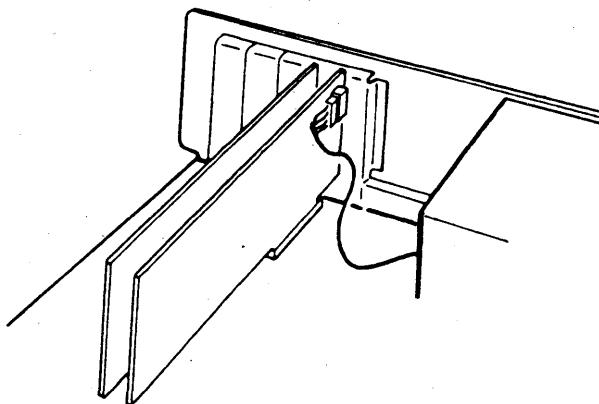

Figure 16: Applying Power to the Tape Controller
7. FOR EXTERNAL TAPE DRIVES WITHOUT POWER SUPPLY ONLY: Locate an available power lead (twisted wire cable with plastic four-pin connector) inside your system and apply it to the tape controller card as shown in Figure 16: